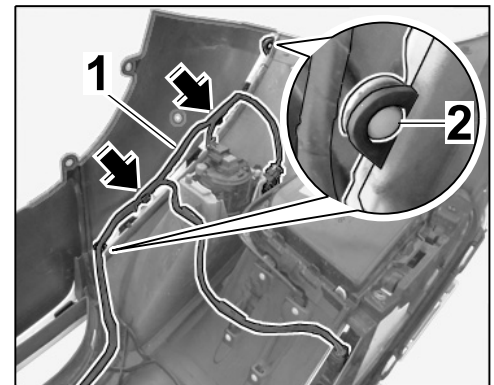

Figure 13
2.5.2 Install two expansion rivets (at the left ⇒ *Figure 13 -inset-/right-*).
2.5.3 Install wire harness on the front apron (at the left ⇒ *Figure 13 -Arrows-/right-*).